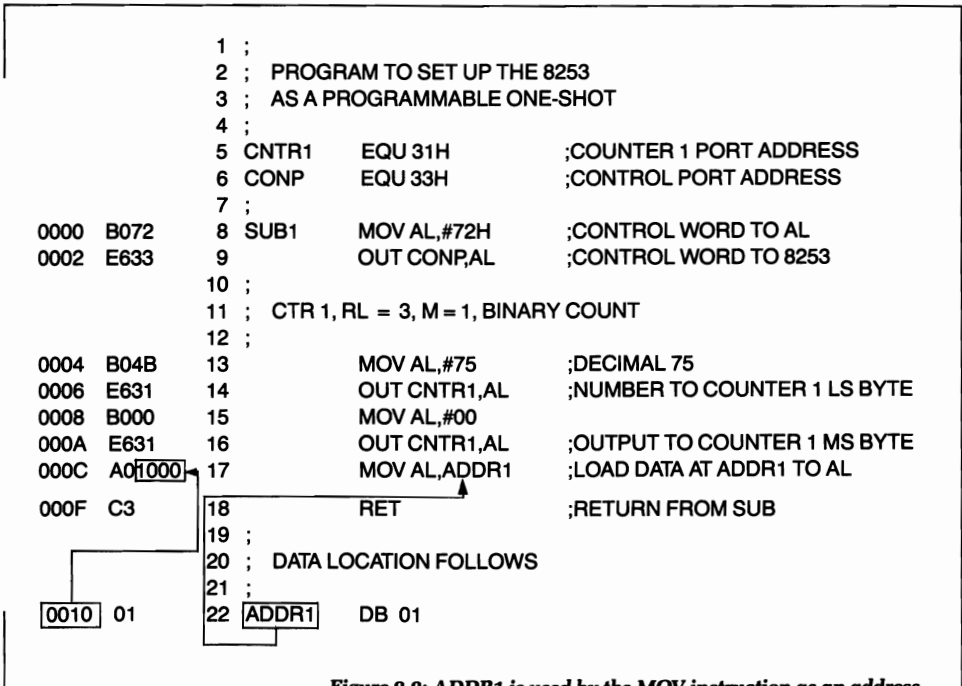

Figure 9.9: ADDR1 is used by the MOV instruction as an address.
*Labels* are special symbols with values that do not need to be defined by the programmer. These values are automatically defined by the assembler at the time of program assembly. (A value is assigned the memory location of the line on which it appears.) Figure 9.9 shows a label that has been given a value by the assembler. When the program is assembled, the memory address of ADDR1 will be used for the MOV instruction.